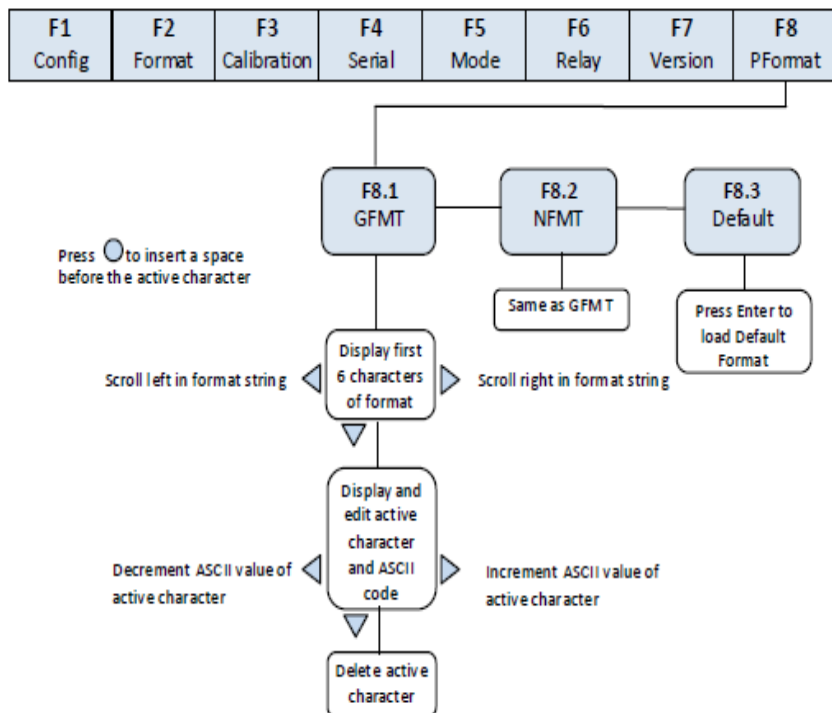

Fig. 13.2.1 Print Format Input Flow Diagram
- (1) Turn on the K1, SW2 or J1 switch to set indicator to the Configuration mode (display shows "F1")
- (2) Press  to show "F8" (see Fig. 13.2.1). Press  to Print Format Menu and display shows "F 8.1".
- (3) When display shows "F8.1", press  again and display shows the first 6 digits of GFMT format.
- (4) Use ,  to move the cursor to different flashing digits. When it is at the far right position, press  again, the first digit at the left is removed and another digit prompts up at the right. When it is at the far left position, press , the last digit at the right is removed and another digit prompts up at the left. Press  to add a space to the left of the flashing digit.
- (5) When the cursor is at a certain digit position, press  to edit. Display shows the characters as shown in Appendix 15.5. "\_." is shown for characters not available in Appendix 15.5.
- (6) While editing, use ,  to move between characters. To delete a character from the string press . Once deleted the indicator will return to F8.1.
- (7) When character editing is completed, press  to return to (4) above and to perform editing other characters. When finish editing, press  to return to F8.1 and display shows "F8.1".
- (8) Press  to go to F8.2 Menu and display shows "F8.2". Refer to (3) to (7) for format editing of NFMT.
- (9) After finishing, turn off the K1, SW2 or J1 switch to exit from Calibration mode and enter into Weighing Mode.
- (1) Turn on the K1, SW2 or J1 switch to set indicator to the Configuration mode and display shows "F1".
- (2) Press  until display shows “F8” (see Fig. 13.2.1). Press  to go to Print output menu and display shows “F8.1”.
- (3) When display shows “F8.1”, press  twice and display shows “F8.3”.
- (4) When display shows “F8.3”, press  to show “Set?”. There are 2 options then:
- (5) Turn off the K1, SW2 or J1 switch to exit from Calibration mode and enter into Weighing Mode.
- (1) Turn on the K1, SW2 or J1 switch to set indicator to the Configuration mode. Display shows "F1".
- (2) Press  until display shows "F7" (see Fig. 13.2.1). Press  to go to F7.1 Menu. Display shows "F7.1"